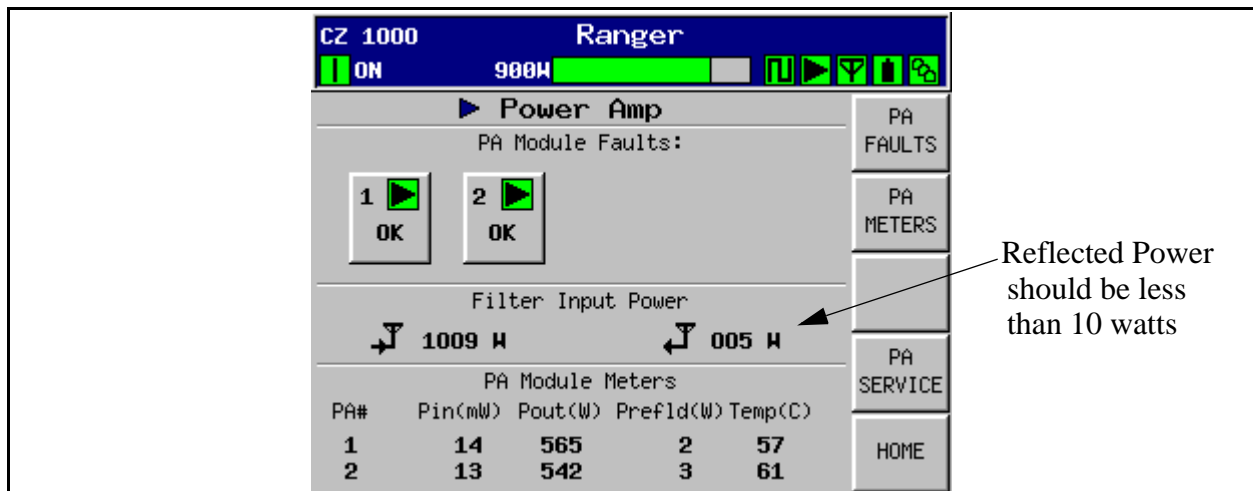
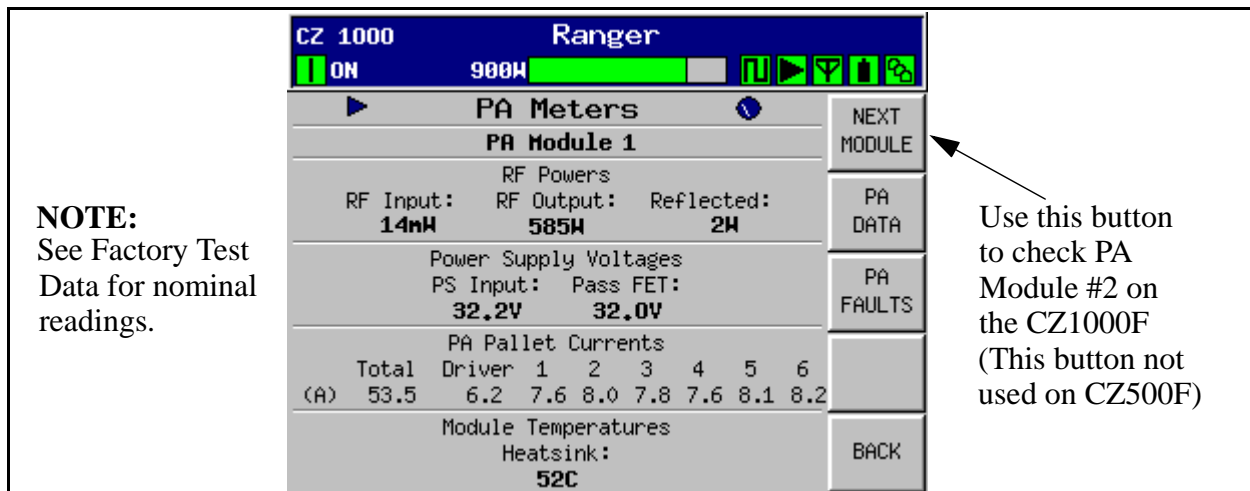

Figure 2-7 Power Amp Main Menu
Figure 2-8 PA Meters Screen
- Press the transmitter ON button.** Make sure the PA PS reading is close to 32Vdc. Next, go to the Power Amp screen shown in Figure 2-7.
- All PAs should show a green (OK) status on the GUI (Power Amp screen).
- Monitor the PA Meters screen shown in Figure 2-8. This screen can be accessed by pressing the PA Meters button on the Power Amp screen in Figure 2-7.